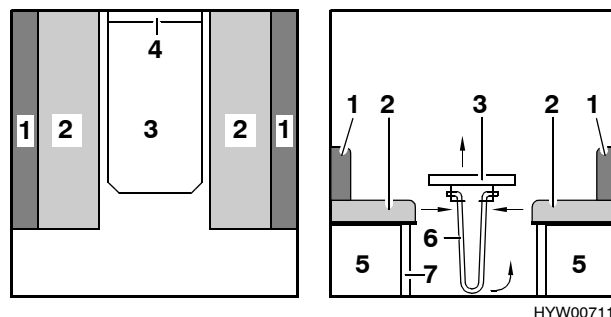

Fig. 43 Prior to conversion
- Slightly lift the front of the table-top (Fig. 43,3).
- Press the top of the table leg (Fig. 43,6) together and fold it against the bottom of the table.
- Lift the table-top by approx. 45°, remove it out of the mounting rail (Fig. 43,4) and place to the side. The table is not required for the sleeping conversion.